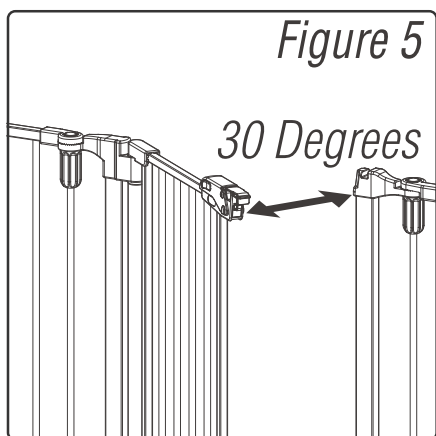

*Figure 4*
**To Close** - Pull the door shut and ensure that the door latch on top closes and then place the lock at the bottom of the gate down on the side occupied by the child, Gate will swing both ways unless one of the swing stops is down. Gate will not swing at all if both swing stops are down. *(Figure 4)*